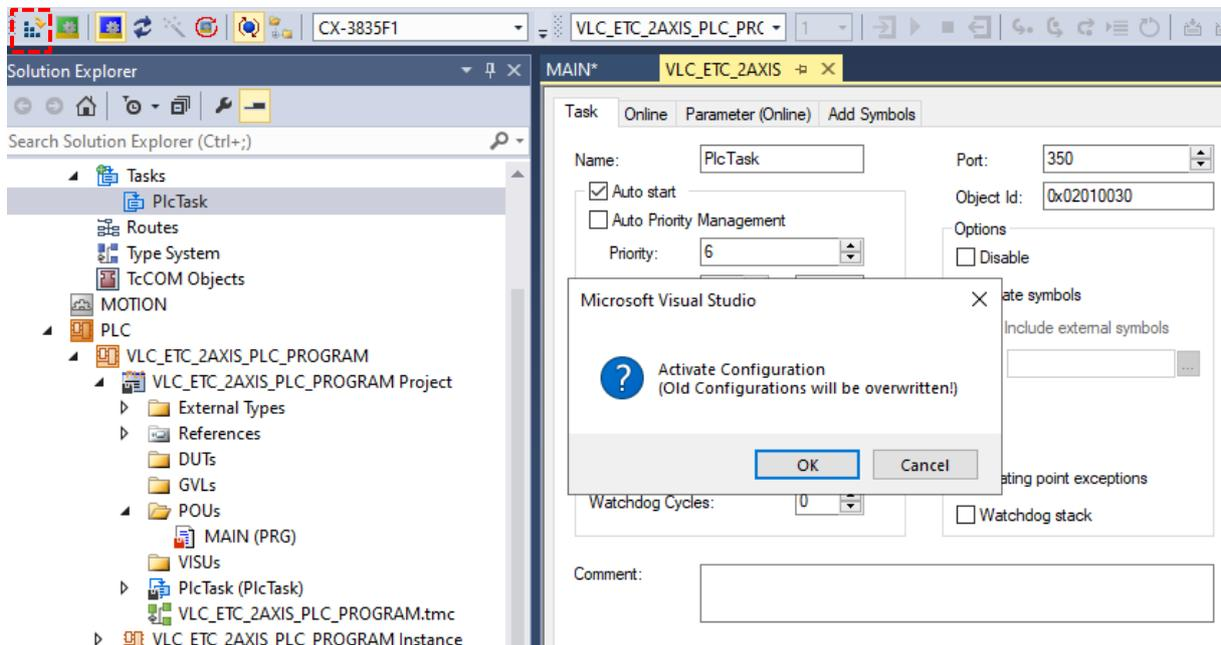

Figure 3.29.
- Click on the 'Activate configuration' icon highlighted in Figure 3.29, click OK, and accept the request to restart TwinCAT in Run Mode